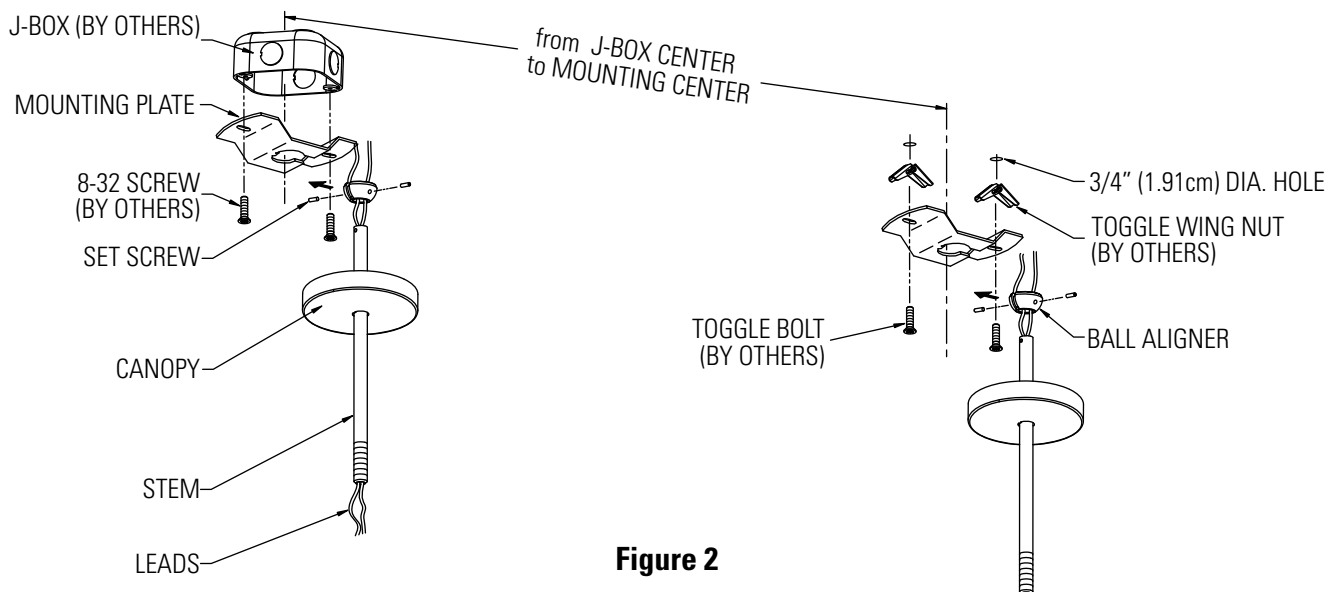

Figure 2
- Attach MOUNTING PLATE to J-BOX (by others) using two (2) 8-32 SCREWS (by others).
- Attach MOUNTING PLATE as required to complete pattern with two (2) TOGGLE BOLTS (by others) per MOUNTING PLATE. (Fig. 2)